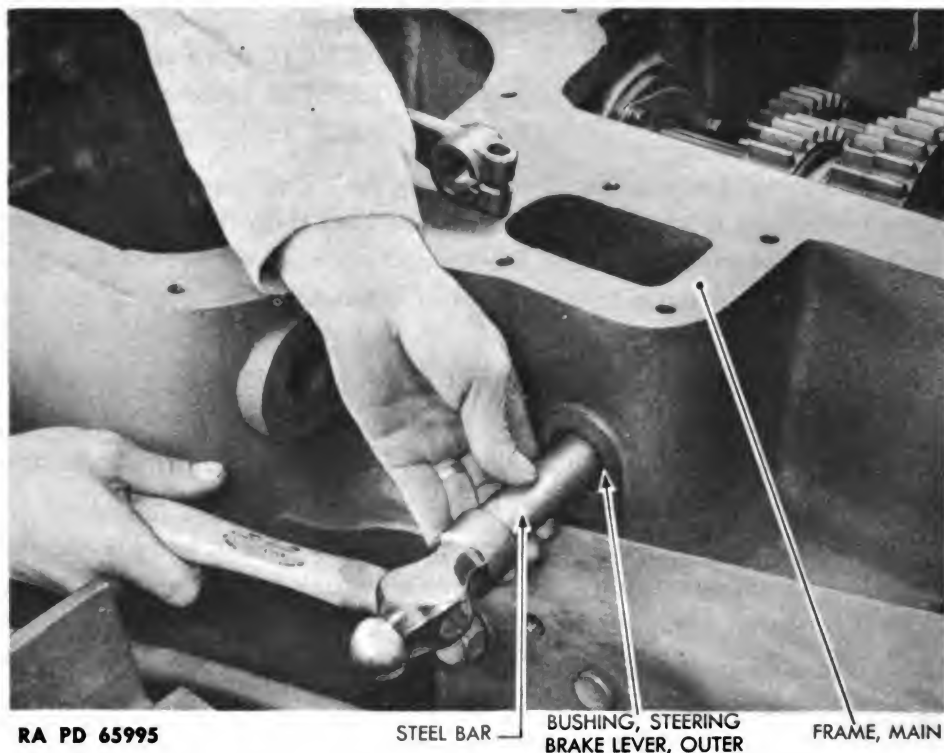

Figure 117 — Steering Brake Lever Outer Bushing Removal
(4) REMOVE RIGHT STEERING BRAKE LEVER OUTER BUSHING (fig. 117).
(1) INSTALL RIGHT STEERING BRAKE LEVER OUTER BUSHING (fig. 117).
(2) INSTALL LEFT STEERING BRAKE LEVER OUTER BUSHING (fig. 117).